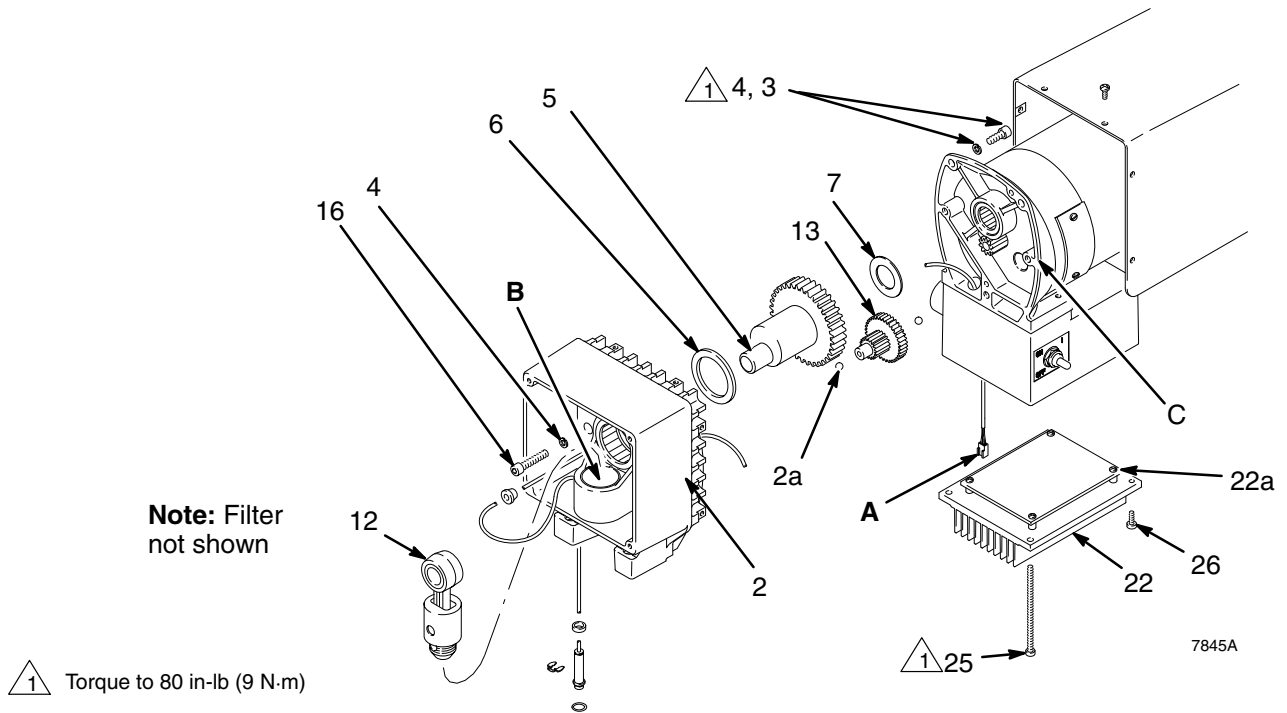

Fig. 23
2. Remove screws (25, 26) and lower heat sink (22). See Fig. 23.
3. Remove rubber boot (82). See page 32.
5. Remove three drive housing screws and lockwashers (16, 4). Also see Fig. 23.
6. Remove two motor screws and lockwashers (3, 4). See Fig. 23.
NOTE: See Fig. 23 and 24 for this procedure.